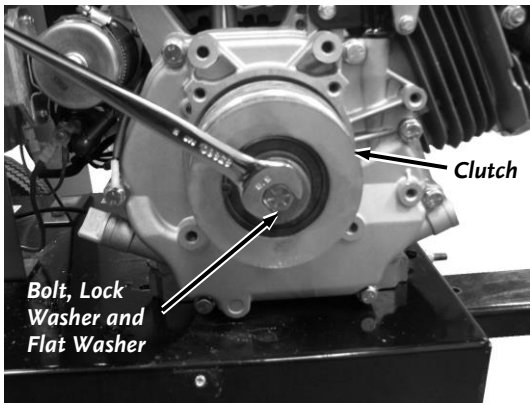

Figure 64
2. Remove the Clutch Bolt, Lock Washer and Washer and then slide the Clutch from the Crankshaft (**Figure 64**).